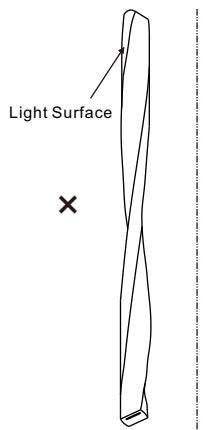

Fig. 2
9. Do not twist the light as Fig. 2 and follow the correct bending way as Fig. 3.